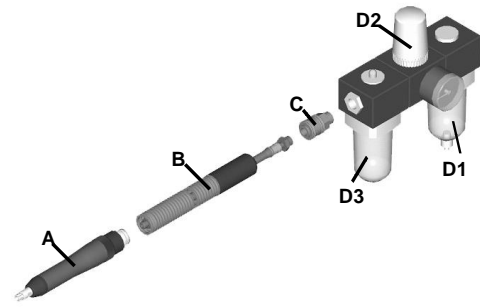
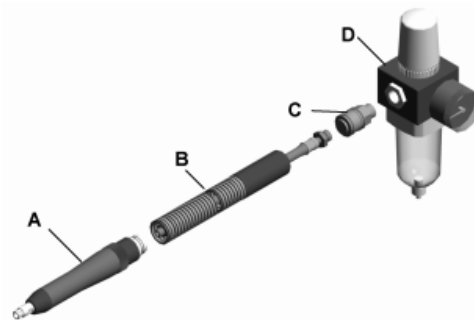

Fig. 2: Connection for oil-lubricated grinder
Fig. 3: Connection for oil-free grinder
The maintenance unit should be installed as near as possible to the grinder (see Fig. 2.; for oil-free grinder, see Fig. 3:).
- Connect the grinder (A) to the maintenance unit (D1 - D3) together with the hose unit (B) and one-hand coupling (C) (see Fig. 2:).
- Connect the grinder (A) to the filter pressure reducer (D) with water separator together with the hose unit (B) and one-hand coupling (C) (see Fig. 3:).